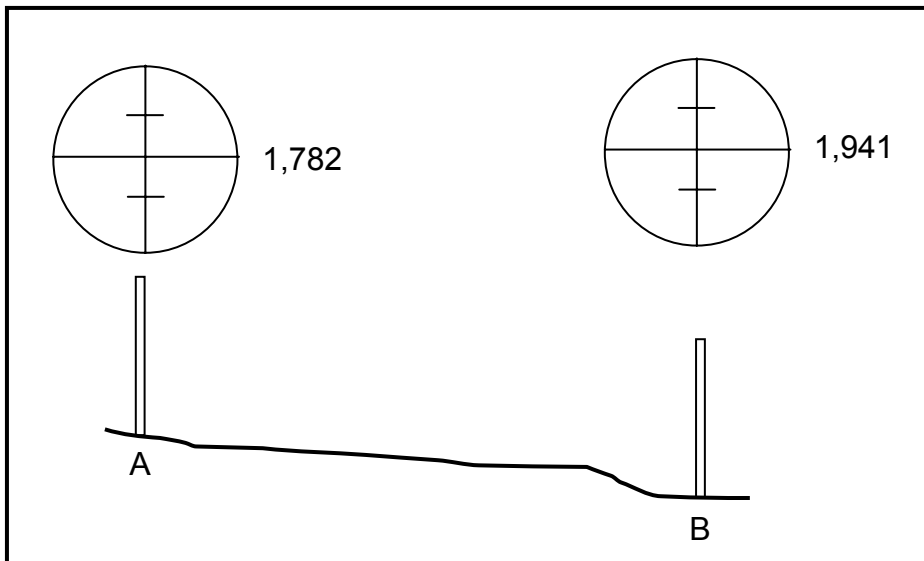

FIGURE 2.5
2.5 FIGURE 2.5 shows TWO readings as seen through the eye piece of a dumpy level. Use these readings and calculate the difference in height between point A and point B.